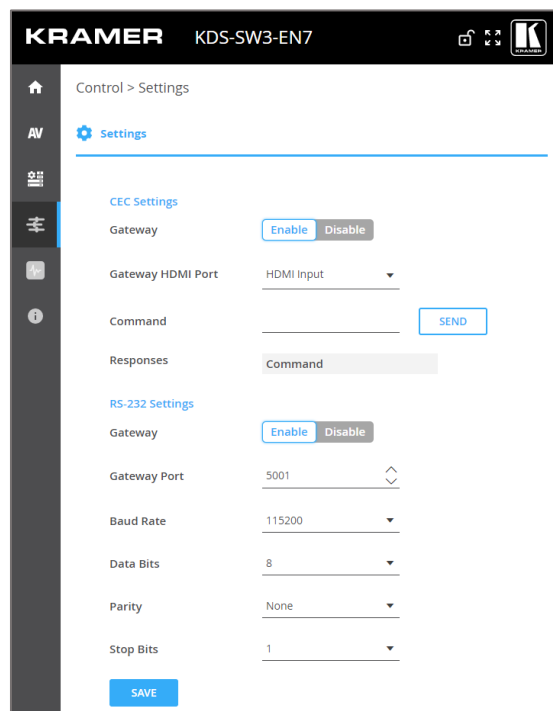

Figure 38: Control > Settings Page – CEC Settings
1. In the Navigation pane, click **Control**. The Control>Settings page appears (see Figure 38).